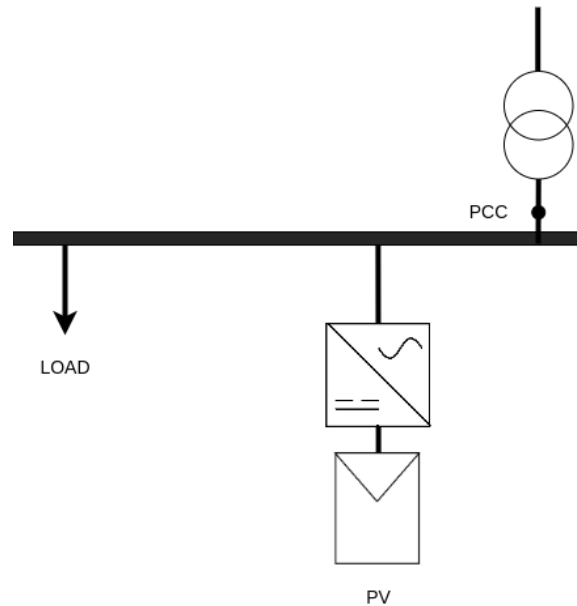

Figure 1
Given a plant described by the simplified SLD reported in Figure 1 installing a photovoltaic (PV) inverter, develop an algorithm to control the active power traded by the plant at the point of common coupling (PCC) by tuning the maximum active power production of the PV inverter.